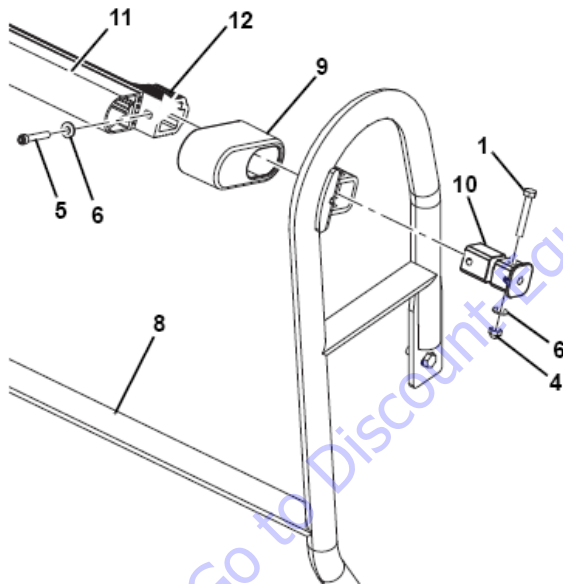

Figure 4-13.
4. Position SkyGuard switch assembly with sensor cover onto the SkyGuard Support Bracket (8) as shown in Figure 4-13.
5. Insert a Shear Block Support (10) through shear block housing on the SkyGuard support bracket and into the platform sensor mount. See Figure 4-13.
**NOTE:** Ensure the correct position of Shear Block Support (10) before installation.
6. Secure the shear block on welded mount of SkyGuard support bracket using Bolt (1), relevant Washer (6) and Acorn Nut (4) as shown in Figure 4-13.
7. Secure the SkyGuard switch assembly using Bolt (5) and relevant Washer (6) on platform sensor mount. See Figure 4-13.
**NOTE:** Tighten the Bolt (5) using appropriate allen wrench.
**WHEN THE SKYGUARD IS PUSHED WITH EXCESSIVE FORCE THE SENSOR SUPPORTS (ITEM 10 - FIGURE 4-13.) WILL BREAK. REPLACE WITH NEW SENSOR SUPPORTS BEFORE CONTINUING OPERATION OF THE MACHINE.**
- Enter password "4 7 7 1" then press button 9 (OK)
- Press Button 1 (ON)